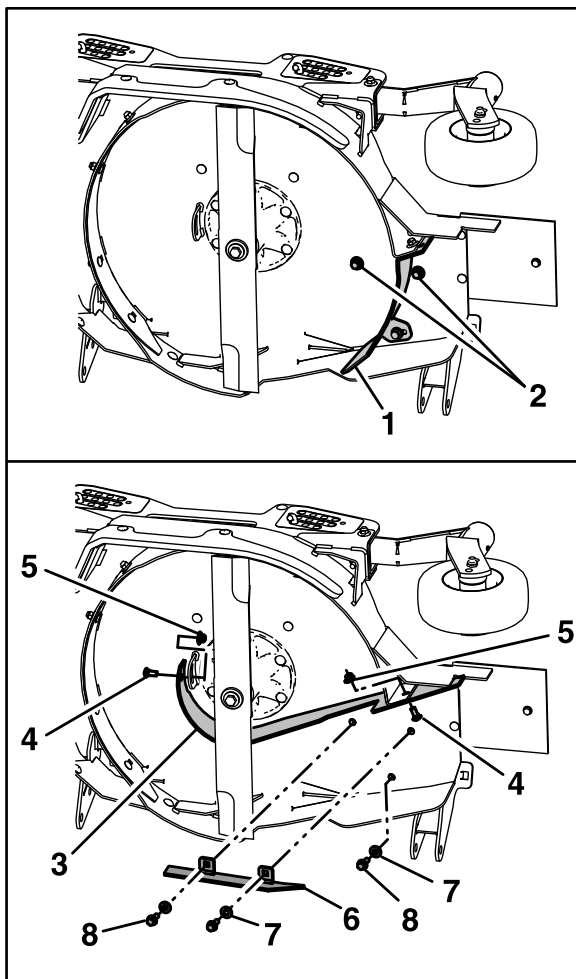

Figure 5
8. Remove and retain the LH wing block baffle and its mounting hardware as shown in Figure 5.
9. Remove the two 3/8-16 x 1 inch hex flange screws and spring disc washer from the deck as shown in Figure 5.